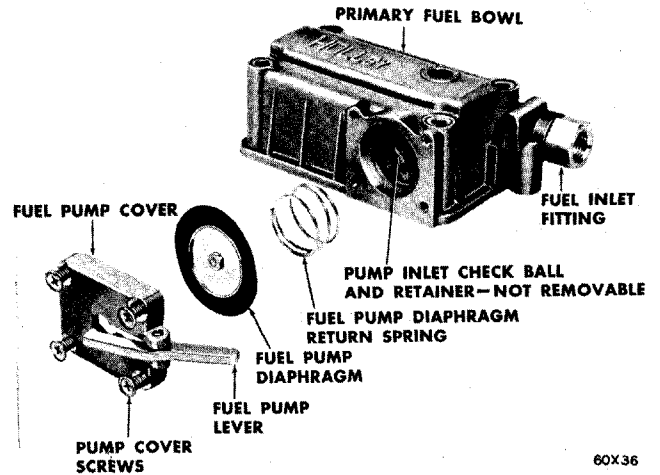
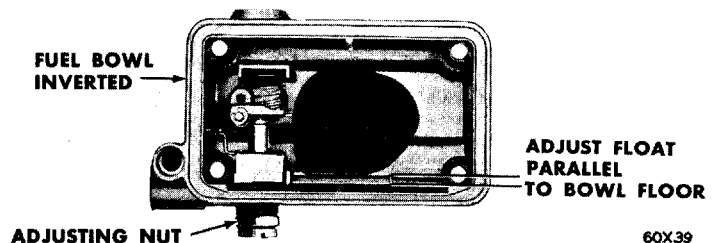

Fig. 10—Accelerator Pump (Fuel Pump — Exploded View)
Fig. 15—Positioning the Float (Approximate Setting)
- (15) Remove the screws that attach the accelerator pump cover (fuel pump) to the primary fuel bowl. Remove the diaphragm assembly and spring (see Figure 10).
- (16) Remove the fuel inlet fitting and filter screen.
- (17) Remove the sight plug and gasket.
- (18) Disassemble the secondary fuel bowl, after removal, as described in Steps 12, 13 and 14.
- (1) Test pump inlet check ball for proper seating. Hold finger over outlet hole in edge of bowl casting and blowing against check ball. No air should escape into bowl.
- (2) Install accelerator pump spring, diaphragm and housing assembly with diaphragm contact button toward pump lever. (Refer to Figure 10).
- (3) Install float, spring and clip.
- (4) Install new "O" ring on inlet needle and seat assembly. Install the assembly, using the adjusting nut. Invert the bowl and adjust until top of float is parallel with housing, as shown in Figure 15. Install gaskets and lock screw.
- (5) Install baffle.
- (6) Install inlet screen and fitting.
- (7) Install sight plug and gasket.
- (8) Assemble the secondary fuel bowl, using steps (3), (4), (5), and (7).